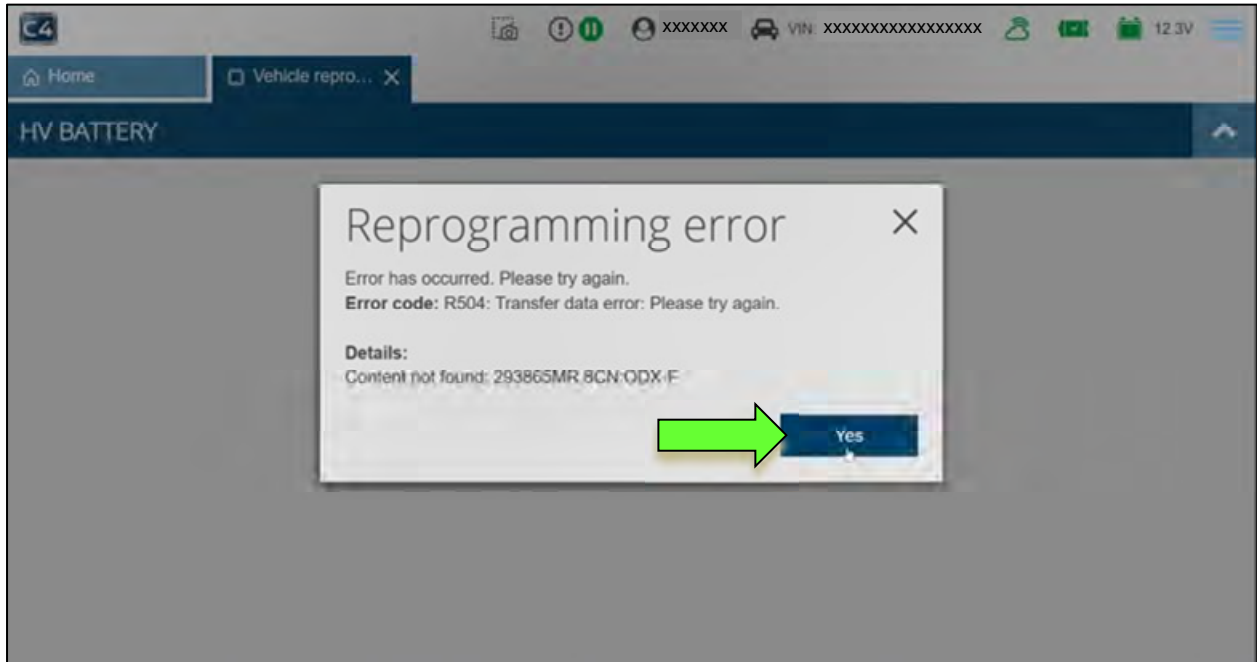

Figure 10
27. Did “Reprogramming error” display (Figure 10)?
**IMPORTANT:** Do not disconnect the VI3 or shut down CONSULT-4 if reprogramming does not complete. If the screen in Figure 10 displays, reprogramming did not complete.